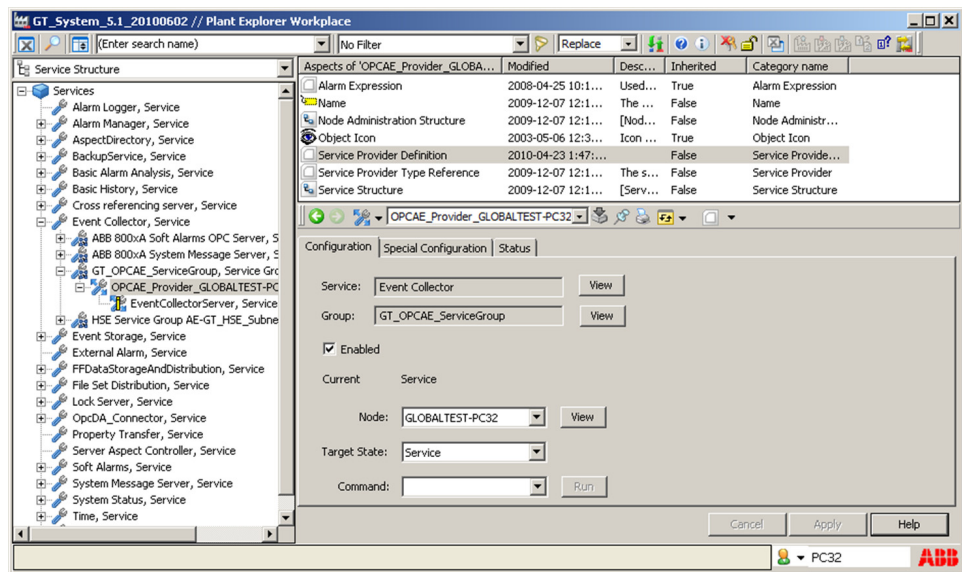

Figure 26. Node Settings for the Event Collector Service Provider
11. Select the **Configuration** tab in the Preview Area as shown in Figure 26.